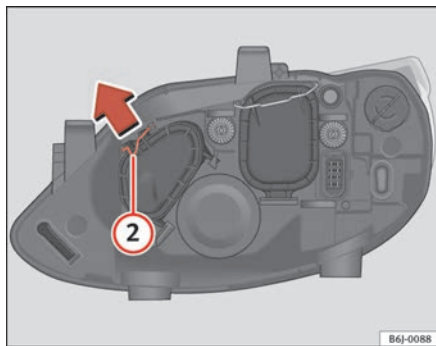

Fig. 137 Main beam headlights
- Move the loop **2** in the direction of the arrow and remove the cover ⇒ fig. 137.